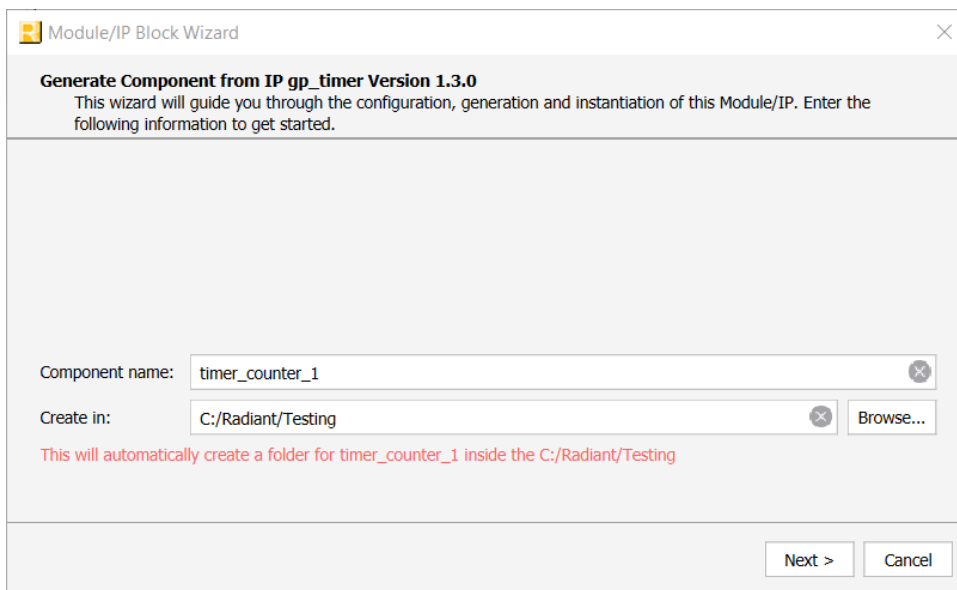

Figure 3.1. Module/IP Block Wizard
3. The **Module/IP Block Wizard** opens as shown in Figure 3.1. Enter values in the **Component name** and the **Create in** fields and click **Next**.
- Click **Finish**. All the generated files are placed under the directory paths in the **Create in** and the **Component name** fields shown in Figure 3.1.